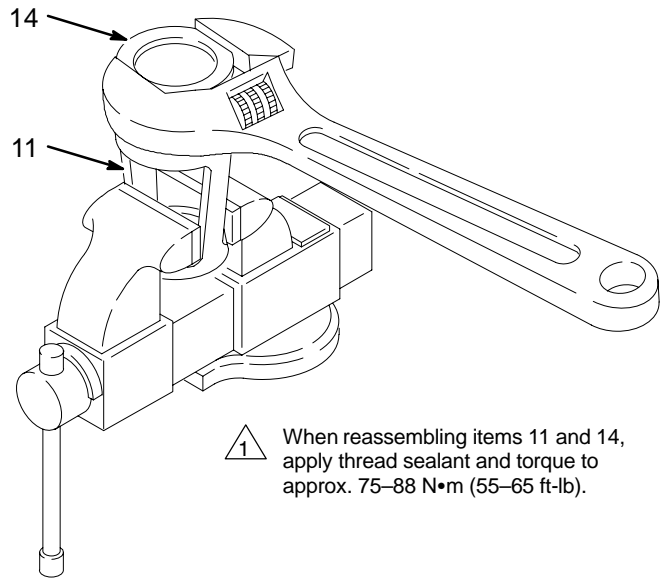
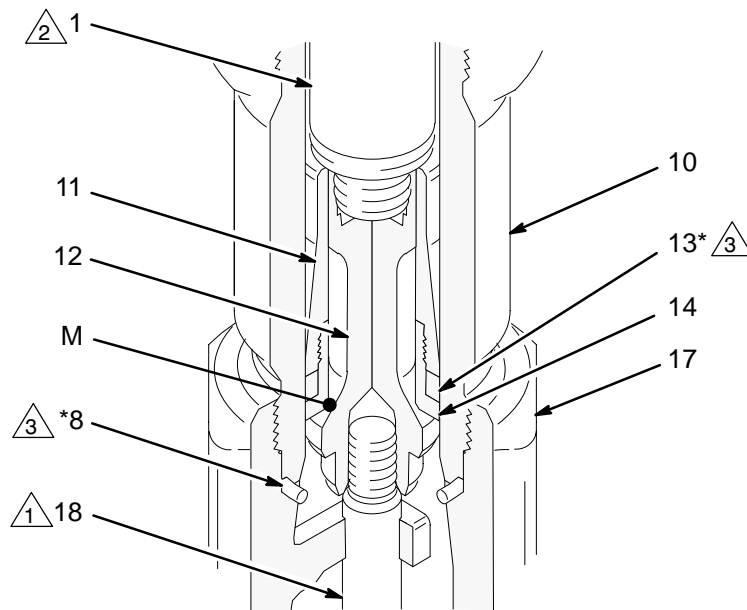

Fig. 10
Fig. 11
9. Remove the seal (8) from the bottom of the cylinder (10). See Fig. 11. Shine a light into the cylinder to examine the inside surface for scoring or damage. **Only if the cylinder is damaged, or there is evidence of leaking around the top cylinder seal (8),** unscrew the cylinder from the outlet housing, using a pipe wrench. Remove the top cylinder seal.
10. Place the flats of the displacement rod (1) in a vise. Unscrew the piston (12) from the displacement rod; the priming piston rod (18) will come with it. Slide the piston guide (11) and seat (14) off the piston (12).
11. It is not necessary to remove the priming piston rod (18) from the piston (12) unless your inspection reveals damage to either part. To disassemble, place the piston flats in a vise and unscrew the rod.
12. Place the piston guide (11) in a vise, as shown in Fig. 10. Using an adjustable wrench, unscrew the piston seat (14) from the guide. Remove the seal (13); always replace it with a new one. Inspect the mating surfaces (M) of the piston (12) and piston seat (14) for damage or wear. See Fig. 11.
2. With the beveled side facing up, press the intake valve seal (39*) into the recess of the intake valve packing nut (15) until it snaps into place. The nose of the seal should be flush with or slightly recessed into the face of the packing nut.
3. Place the flats of the valve body (16) in a vise. Screw the packing nut (15) into the valve body handtight. Set the intake housing assembly aside.
4. Lubricate the piston seal (13*) and install it on the piston seat (14). Apply thread sealant to the threads of the seat and the piston guide (11). Screw the guide onto the seat (14). Place the guide in a vise as shown in Fig. 10 and torque the seat to 75–88 N•m (55–65 ft-lb).
5. If it was necessary to remove the priming piston rod (18) from the piston (12), place the flats of the piston in a vise. Using an adjustable wrench on the flats of the rod, screw the rod into the piston. Torque to 125–137 N•m (92–101 ft-lb). Be careful not to create burrs on the flats of the rod.
6. Place the piston seat/guide assembly onto the piston (12) so the 45° beveled seating surfaces match. Screw the displacement rod (1) into the piston (12) hand tight, then torque the rod to 339–359 N•m (250–265 ft-lb).
-  1 Piston check valve (see Fig. 11).